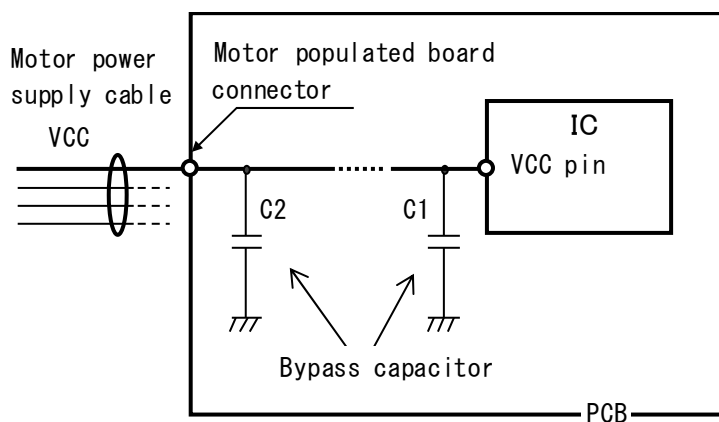

FIGURE 4.5.1 Example of Mounted Surge Suppression Devices
- ① Mount a bypass capacitor C1 near the pin of the inverter IC. For maximum effectiveness, use a capacitor that has excellent frequency characteristics, such as a ceramic capacitor. As a guide, capacitors of around 1μF are recommended (the larger the capacity, the more effective the device is).
- ② It is more effective to mount a surge suppression device, such as bypass capacitor C2 shown in Fig. 4.5.1, close to the connector of a motor populated board.